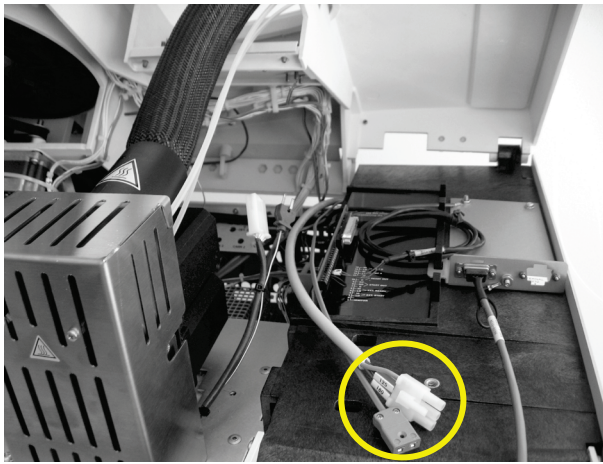

Figure 32 Inserting the GSV heater cables (circled) under the GC cover
21. Pass the GSV heater power supply and thermocouple cables underneath the GC top cover from the rear of the GC and into the detector compartment (Figure 32).